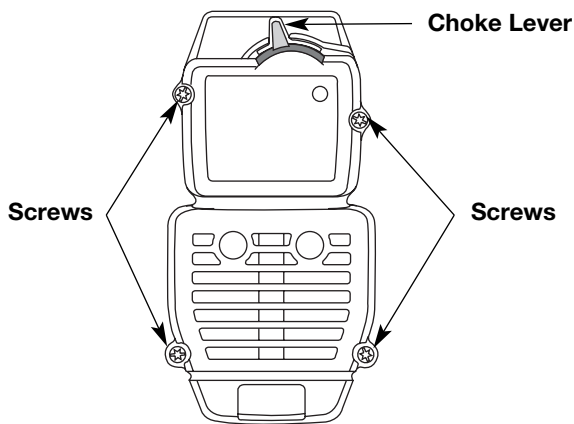

Fig. 13
NOTE: The choke lever must be in Position 2 (Fig. 13) to remove the air filter/ muffler cover.
2. Remove the four (4) screws securing the air filter/muffler cover (Fig. 13). Use a flat blade or T20 Torx bit screwdriver.
3. Insert the four (4) screws into the holes in the air filter/muffler cover (Fig. 13) and tighten. Use a # T20 Torx bit screwdriver. Do not over tighten. Do not force.